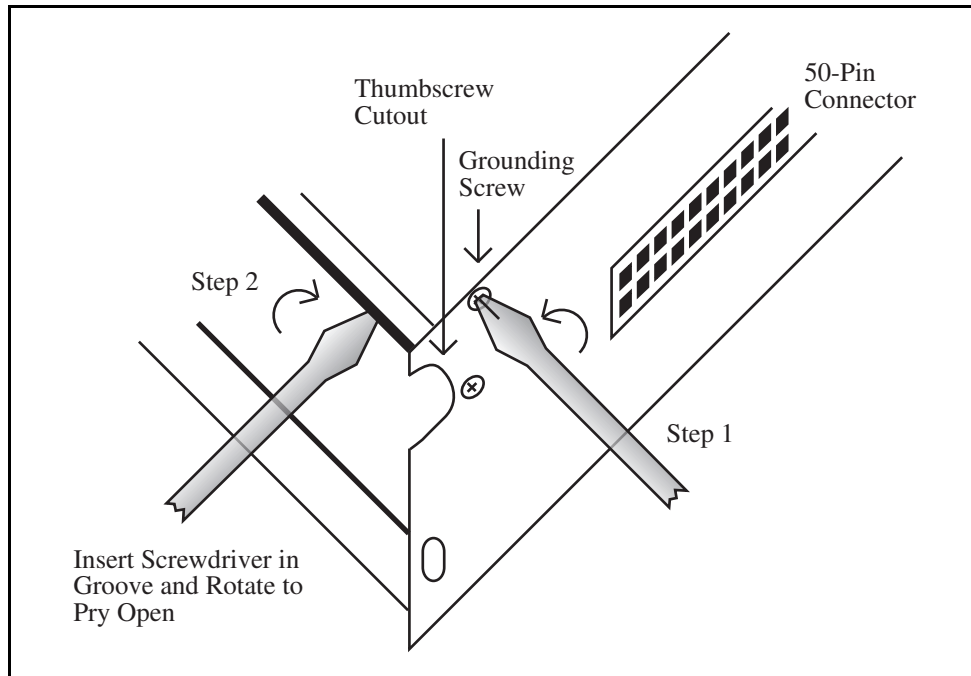

Figure E-5. SCXI-1350 Cover Removal
1. Unscrew the rear grounding screw on the back of the terminal block, as shown in Figure E-5.